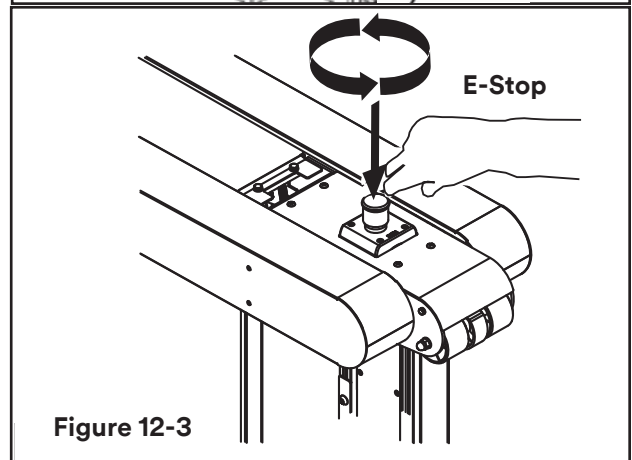

Figure 12-3
Before carrying out cleaning or maintenance operation, stop the machine by turning OFF (O) switch on main and disconnect pneumatic and electric power (**Figure 12-3**).